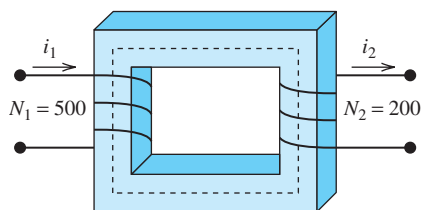

FIGURE P12.24 Magnetic circuit.
12.24 (B)* Two coils are wound on a core as shown in Figure P12.24. The core reluctance is $\mathfrak{R} = 6.3 \times 10^6$ A-turns/Wb. Find the self-inductances of the coils.